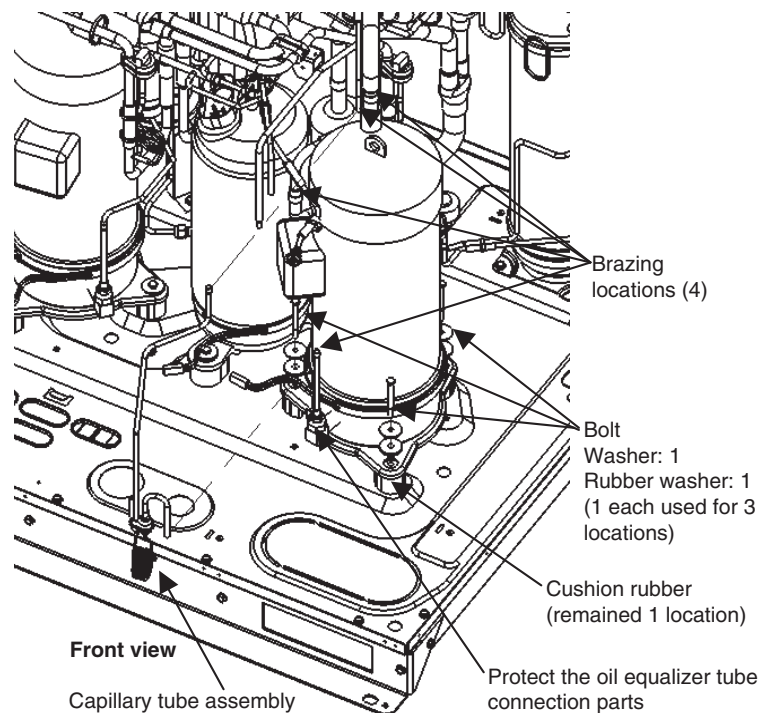

Fig. 31
- (8) Place the remaining cushioning rubber onto the new compressor at the location shown in the figure 31.
- (9) Remove the bolts which are temporarily fastening the 2 pieces of cushioning rubber, and anchor the 3 compressor legs using the bolts, washers, and rubber washers.
- (10) Insert the capillary tube assembly, as shown in the figure 31, at the 2 brazing locations indicated.
- (11) Shape the tubes and insert them at the remaining 2 brazing locations.
- (12) Connect the manifold gauge to the high- and low-pressure outlet ports at the outdoor unit where the compressor was replaced. Connect the manifold gauge to a nitrogen cylinder and perform nitrogen gas replacement.
- (13) Perform copper brazing at the 4 brazing locations.